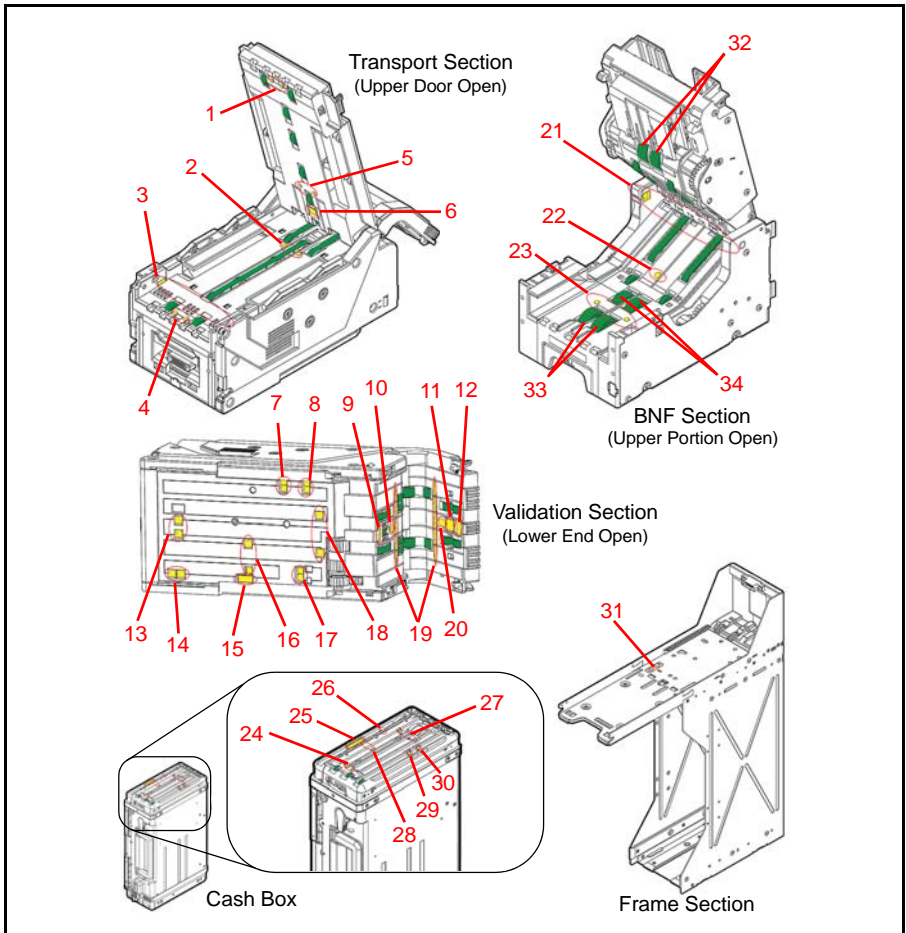

Figure 3 TBV Sensor and Roller Cleaning Locations
4. Clean the Lens of each Sensor. Refer to Figure 3 for the TBV Sensor Locations and Table 8 for each Sensor's cleaning method.
* Wipe and clean all Rollers and the GREEN Colored Belts shown in Figure 3 using a soft, lint-free Microfiber cloth.